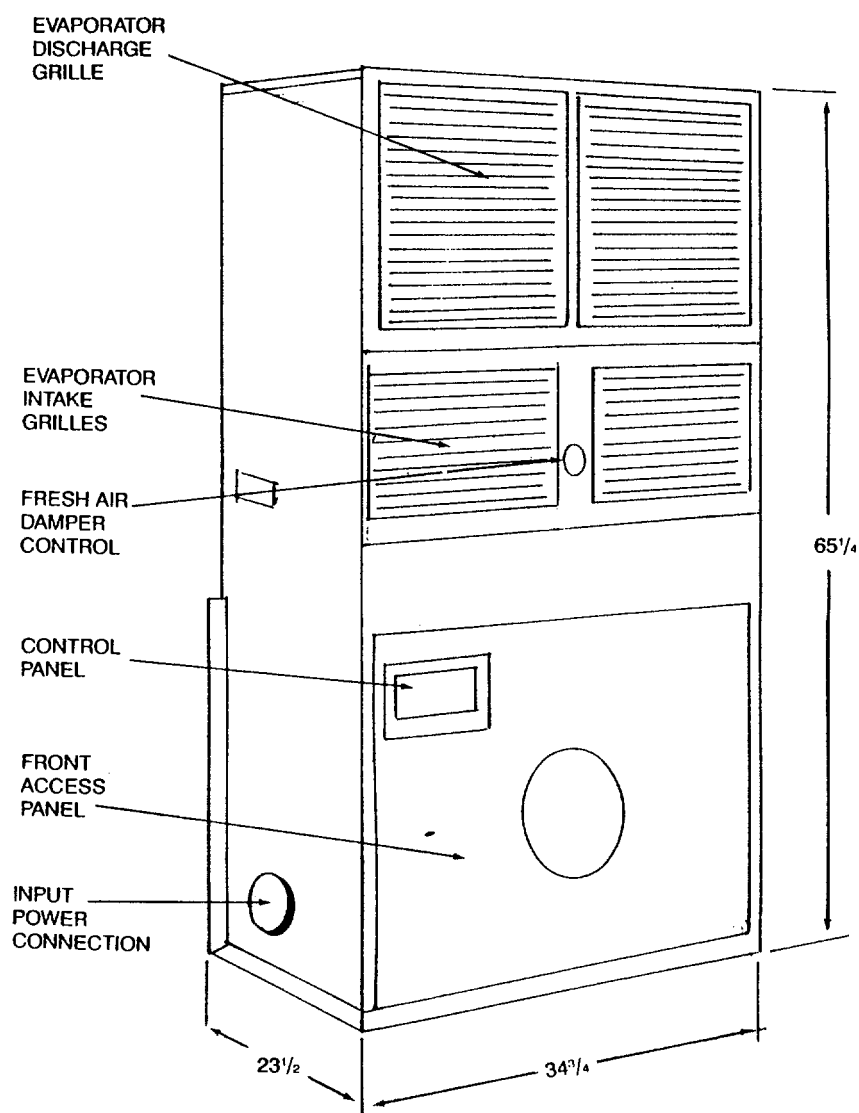

Figure 1-1. Air Conditioner, Front View
The purpose of the air conditioner is to ventilate, heat, or cool the air in an enclosure, and to provide a comfortable environment for personnel occupying the enclosure. (See Figures 1-1 through 1-4). The unit may
a. **Evaporator discharge grille.** (See Figure 1-1) The evaporator discharge grille is located at the top of the front face of the air conditioner, and extends across the entire width of the unit. Each side of the grille is equipped with adjustable vanes to direct the airflow from the ventilating blower. These vanes should always be kept open when the air conditioner is operating in any mode, so that the output of the air will not be obstructed. When the air conditioner is operating in the cooling mode, the delivered air will be denser than the room air, and will have a tendency to sink downward. To offset this tendency, the grille vanes should be directed slightly upward. When heating, the delivered air will be less dense, and will have a tendency to float upward. This tendency may be offset by directing the grilles downward.
b. **Evaporator intake grilles.** (See Figure 1-1). The intake grille is located just below the discharge grille, and it consists of two vaned grilles. Both sets of vanes should be fully open during operation of the air conditioner in any mode, except when outside air is being drawn in. The opening or closing of the vanes is controlled by operating tabs projecting from the left side of the left grille and the right side of the right grille.